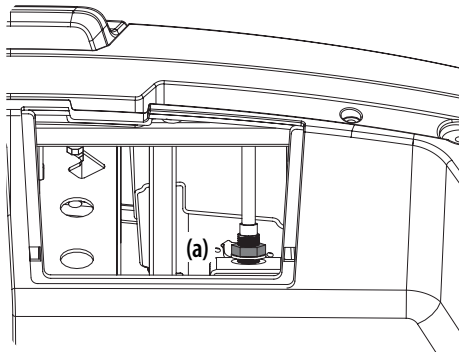

Figure 5-19
2. Locate the shift lever adjustment nuts (a). See Figure 5-19.
3. Adjust the nuts (a) up or down until the shift lever is working properly. See Figure 5-19.